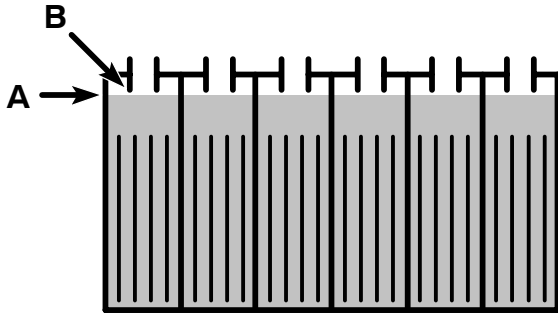

FIG. 58
3. Check the electrolyte level (A) in each battery cell **after charging batteries**. The level should be approximately 1 cm from the bottom of the fill-port (B). Add distilled water if needed (Figure 58). **DO NOT OVERFILL.**